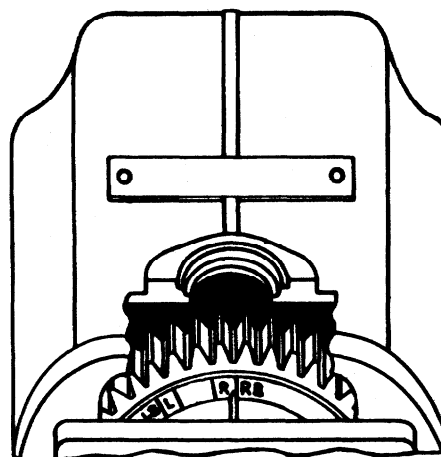

Figure 4. Alignment of Timing Mark on Distributor Gear – 6 Cylinder, Retard Breaker, Right Hand Rotation
- c. "6" Cylinder, retard breaker types – The timing rib on distributor block MUST lie between the "L" and "LB" or the "R" and "RB" marks on the gear, and should be nearer to the "LB" or "RB" mark, depending on magneto rotation. (See figure 4)